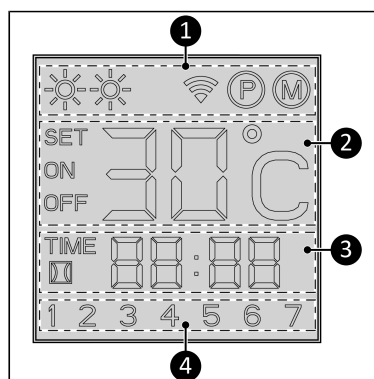

Figure 21.
Status indication (Figure 21, pos. 1):
Temperature indication (Figure 21, pos. 2):
Time indication (Figure 21, pos. 3):
Day indication (Figure 21, pos. 4):